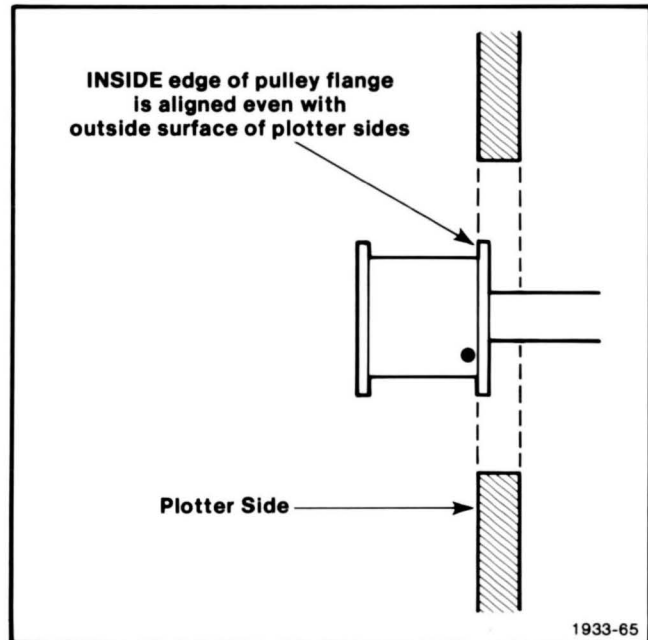

Figure 3-4. X-Axis Pulley Adjustment.
4. **Replace** the X-axis pulley on the X-axis motor shaft. The **INSIDE** edge of the pulley flange should be even with the outside surface of the plotter chassis (see Figure 3-4).